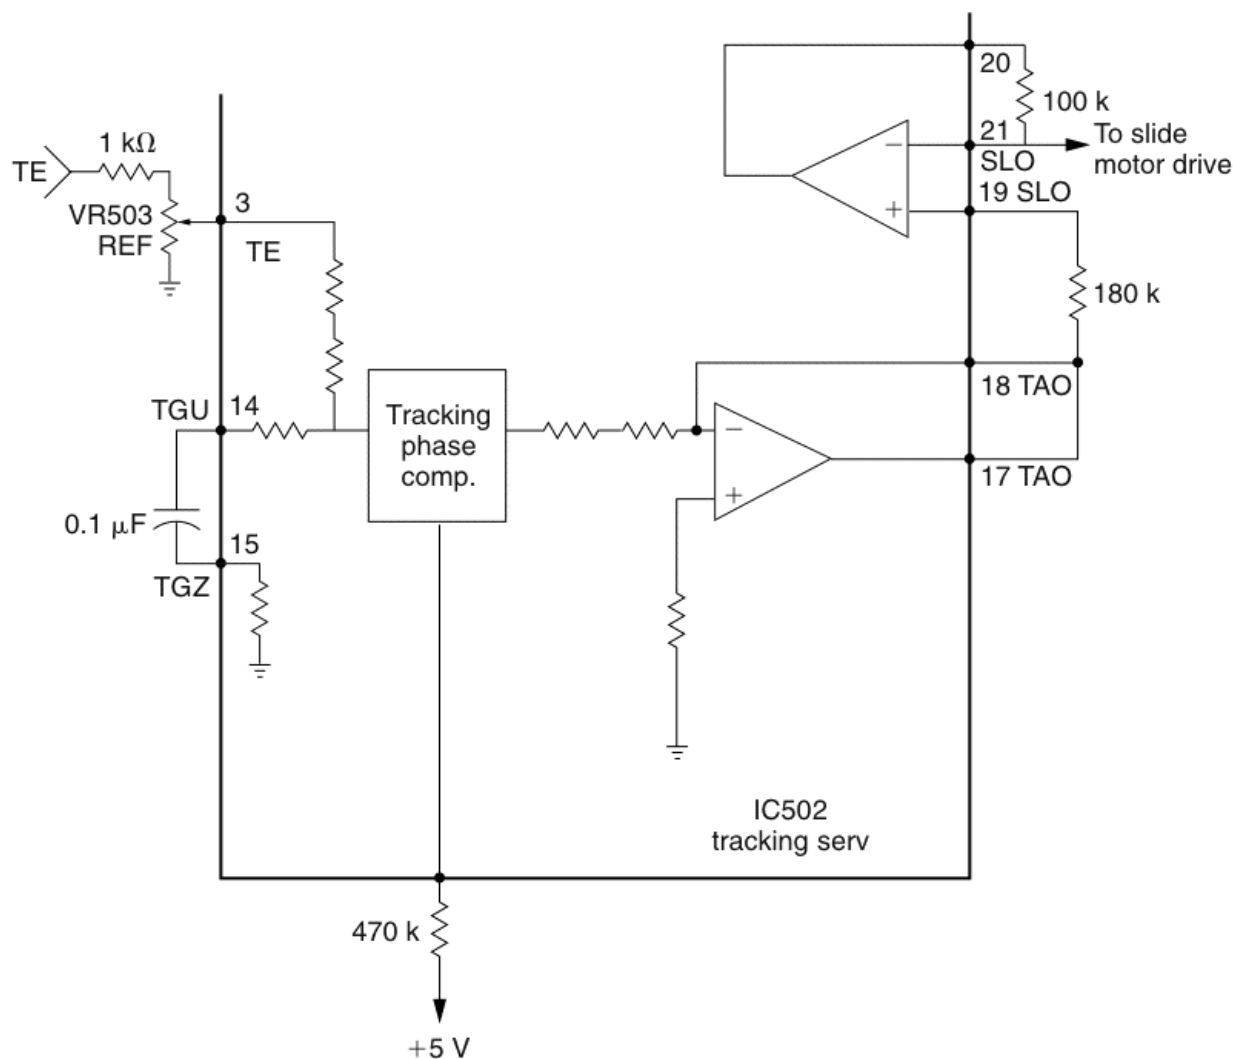

FIGURE 26-14 The tracking servo system in a boom-box CD player.
Realistic CD-3304 tracking servo system The tracking error (TE) signal is fed from the RF amp (IC501) to pin 3, through a reference adjustment of VR503. This TE signal can be checked at test point TEO. The output signal at pin 17 goes to the tracking actuator IC506 and then to the tracking coil (Fig. 26-14).